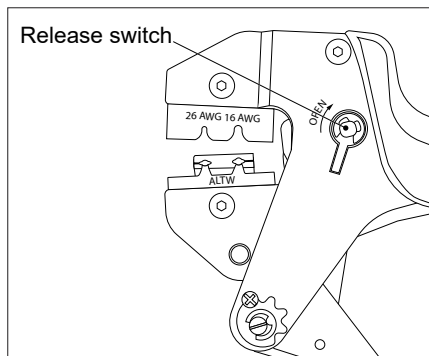

Figure 17: VP Crimping tool
4. Mount the crimping pins and use the VP Crimping tool (see figure 17) to securely fasten them. The power cables use AWG 16 pins while the data pins use AWG 26.